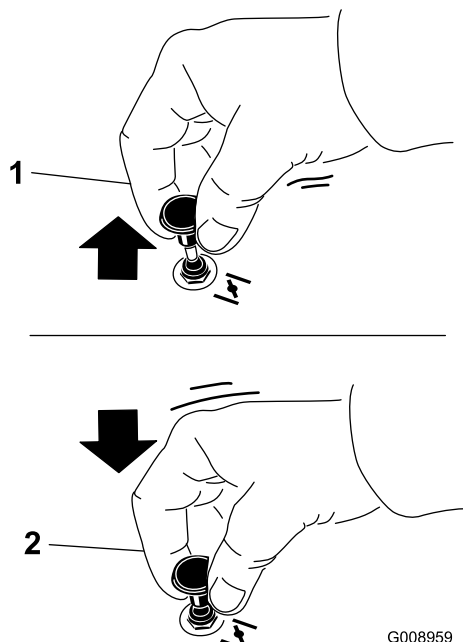

Figure 13
2. Pull up on the choke knob to engage the choke before using the ignition switch (Figure 13).
3. Push down on the choke knob to disengage the choke after the engine has started (Figure 13).